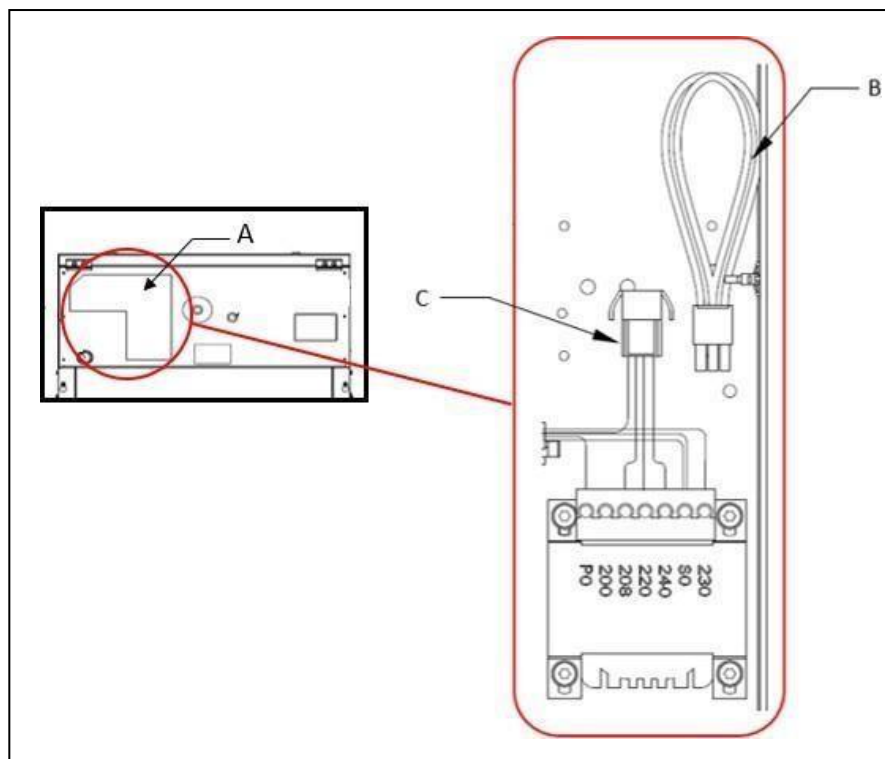

Fig. 3.10
- Remove the support cover (A) from the junction box located on the rear panel (Fig. 3.10).
- Connect the voltage selector (B) onto the transformer connector (C) in accordance with the power supply and with the accompanying table (Table 1).